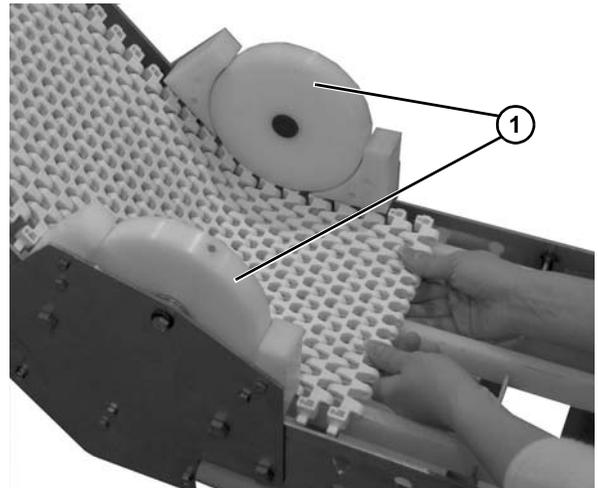

Figure 28
8. For Z-Frame conveyors, guide the belt under the hold down guides (**Figure 28, item 1**) in the lower knuckle.